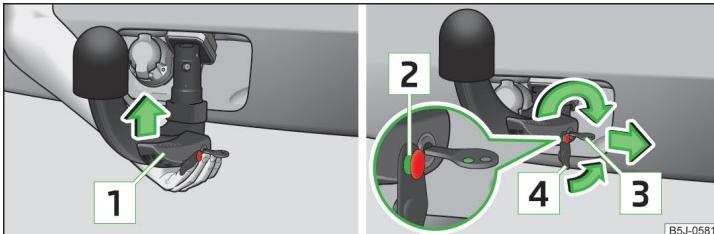

Fig. 120 Insert the ball head/lock the lock, and put the lock cover on
- Grip the tow bar from underneath Fig. 120 and insert into the mounting recess until you hear it click into place .
Lever Fig. 120 automatically turns upwards and the release pin pops out (its red and green parts are visible) .
- Push cap Fig. 120 onto the lock in the direction of the arrow .